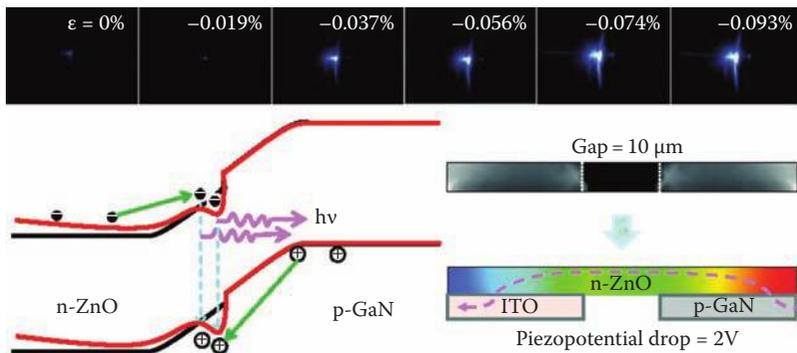

FIGURE 13.30
- Enhanced light emission of ZnO microwire-based diodes using a piezo-phototronic effect (Figure 13.30).